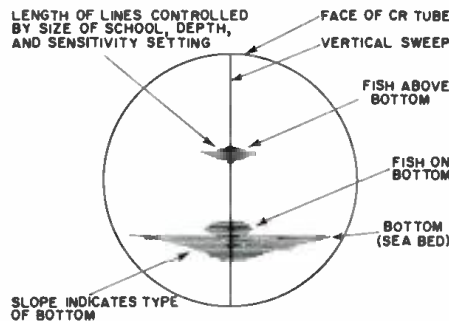

Fig. 1. Scope type indicators use vertical sweep to show presence of fish and type of bottom, in addition to depth.
**Scopes:** Usually called "fish finders," indicators which display their information on a CRT are becoming increasingly popular for fishing purposes. An accurately controlled, one-shot vertical sweep is triggered each time a pulse is transmitted. This produces a vertical line on the face of the tube. The spot travels from top to bottom, the retrace being blanked. The zero flash is generally positioned so as not to show on the screen, i.e., it is just ahead of (above) the start of the sweep. Echoes appear as horizontal deflections of the beam. See Fig. 1. Since the speed of the moving electron spot is predetermined and fixed, its displacement from the starting point at any given instant is proportional to the pulse's travel time and thus also the depth. The latter is read from a vertical scale.